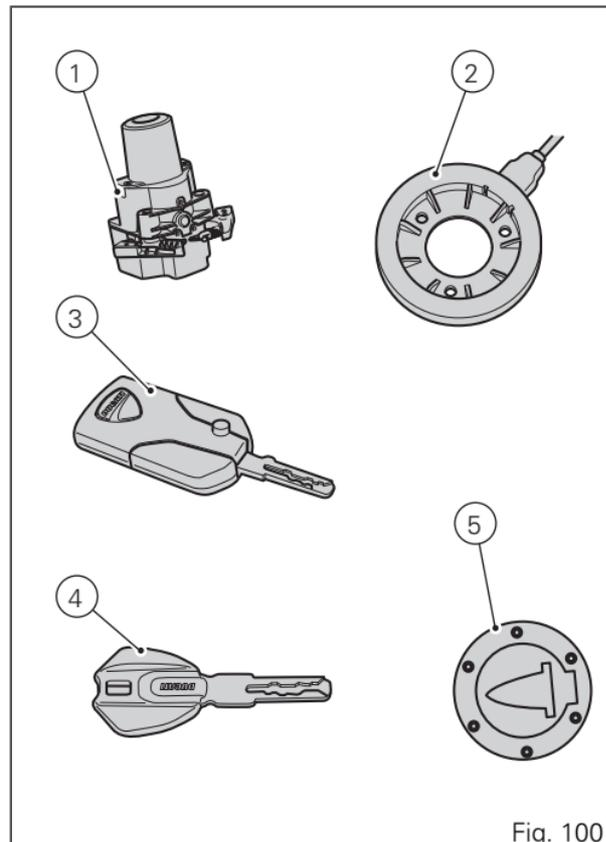

Fig. 100
A Key-On can be performed by pressing the red button (6) on the handlebar in the HANDS FREE ON/OFF position and in the presence of the active key (3, Fig. 100).
Key-Off can be performed by pressing the red button (6) on the handlebar in the HANDS FREE ON/OFF position. It can also be performed without the key (3, Fig. 100) only if motorcycle speed is equal to zero.
Key-On can be performed by pressing button (7) on the Hands free lock (1, Fig. 100) and with the presence of the active key (3, Fig. 100).
Key-Off can be performed by pressing button (7) on the Hands free lock (1, Fig. 100), also without the key (3, Fig. 100).
A Key-On can be performed by pressing the red button (6) on the handlebar in the HANDS FREE ON/OFF position and in the presence of the passive key (4, Fig. 100).
Key-Off can be performed by pressing the red button (6) on the handlebar in the HANDS FREE ON/OFF position. It can also be performed without the key (4, Fig. 100) only if motorcycle speed is equal to zero.
Key-On can be performed by pressing button (7) on the Hands free lock and with the presence of the passive key (4, Fig. 100).
Key-Off can be performed by pressing button (7) on the Hands free lock (1, Fig. 100), also without the key (4, Fig. 100).
Key-On can be performed by pressing button (7) on the hands free lock (1, Fig. 100) without the presence of the keys (3, Fig. 100) and (4, Fig. 100) and entering the pin code on the instrument panel.